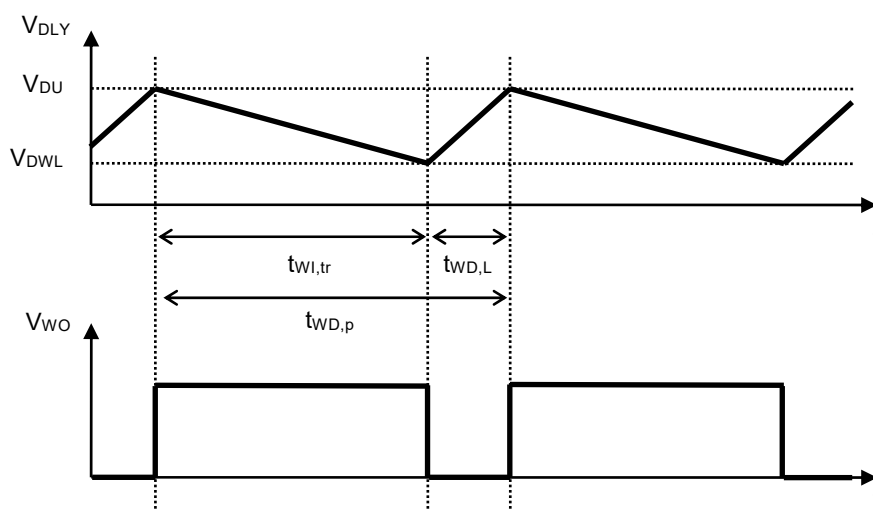

Figure 9
*1. The period of the continuous rectangular wave that appears in the WO pin when the watchdog timer repeats the detection of a time-out (Refer to **Figure 9**). It is calculated by using the following equation.
*2. The time when the WO pin continues "L" after the watchdog timer detects a time-out (Refer to **Figure 9**).
*3. The time from when the watchdog timer initiates the detection of a trigger signal to when a time-out is detected and the WO pin output changes to "L" (Refer to **Figure 9**). This value changes according to C_{DLY} . This is the guaranteed value when V_{OUT} increases to $+V_{DET}$ or higher and the discharge operation of C_{DLY} due to the detector operation is not performed. The discharge operation of C_{DLY} may be performed when V_{OUT} decreases to $-V_{DET}$ or lower. At that time, $t_{WI,tr}$, $t_{WD,L}$ and $t_{WD,p}$ may be changed.